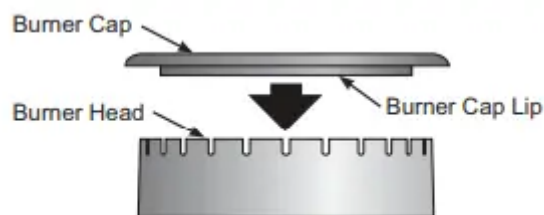

Figure 25: Burner Cap
1. Remove the burner cap from the burner head (see Figure 25). Clean the cap with hot soapy water and dry thoroughly